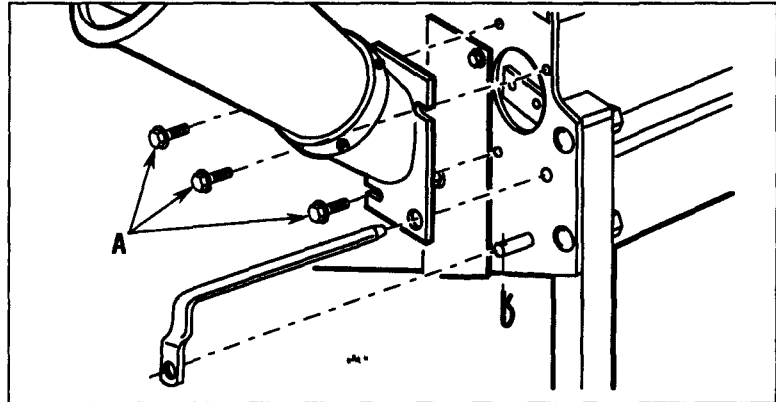

Figure 5-6: Take off chipper chute by removing rod and three screws.
3. Remove and save the three flange screws (A, Figure 5-6) from the base of the chipper chute and remove the chute.